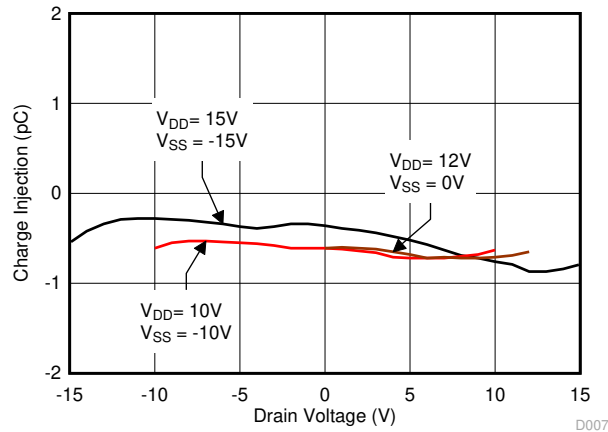

Figure 7-15. Charge Injection vs Drain Voltage
The TMUX6136 utilizes special charge-injection cancellation circuitry that reduces the drain (D)-to-source (Sx) charge injection to as low as -0.4 pC at $V_S = 0$ V, as shown in Figure 7-15.